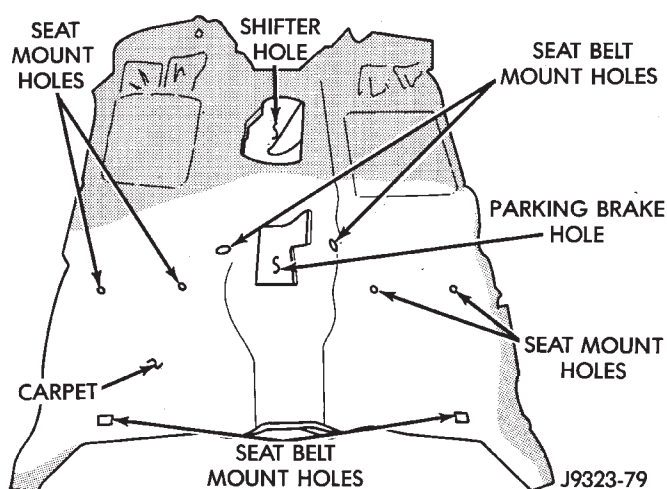

Fig. 37 Front Carpet & Mat
- (1) Remove lower B-pillar trim panels.
- (2) Remove front and rear seats (as applicable).
- (3) As necessary, remove trim panels and moldings.
- (4) Remove floor console.
- (5) Remove all other interfering components.
- (6) Remove carpet and mat from floor panel (Fig. 37).